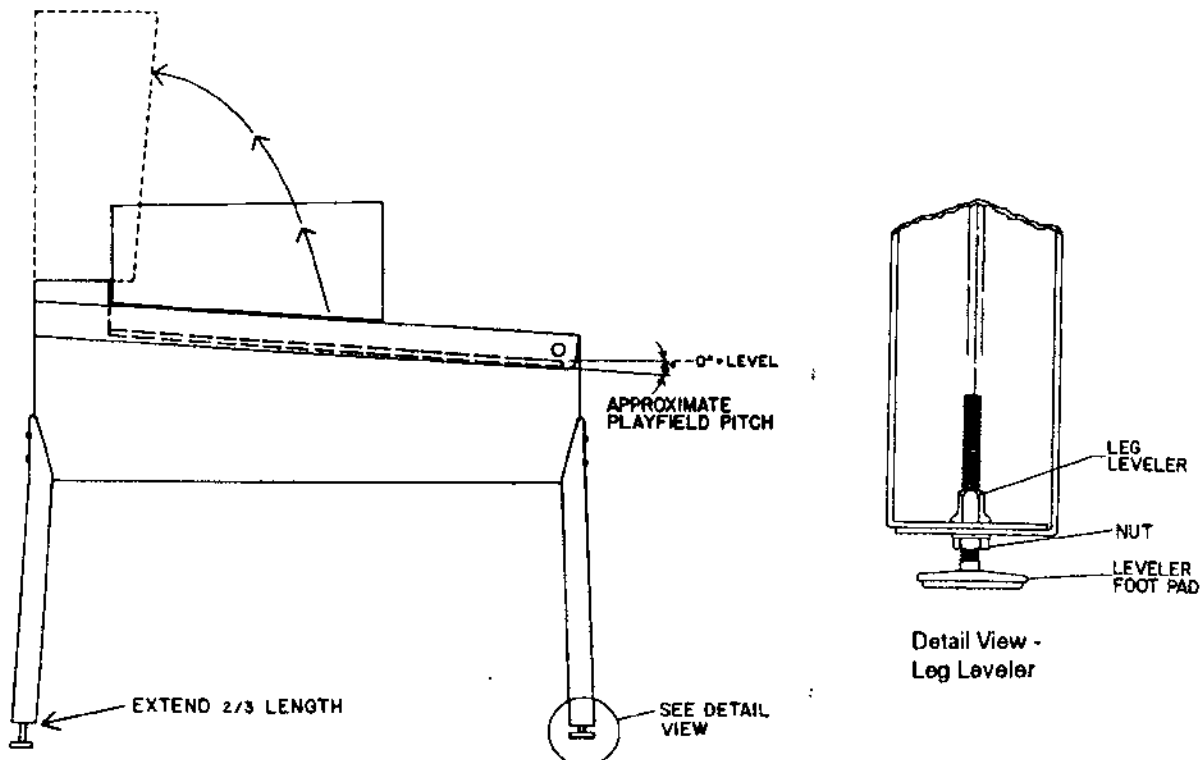

Figure 1. Pinball Assembly, Playfield Pitch Angle, and Leg Leveler Details.
7. Remove the playfield cover glass to permit accurate measurement of the playfield level and pitch. Level (side-to-side) the playfield (preferably measured ON the playfield surface), and firmly tighten the nut on each leg leveler shaft to maintain this level setting, as shown in Figure 1.